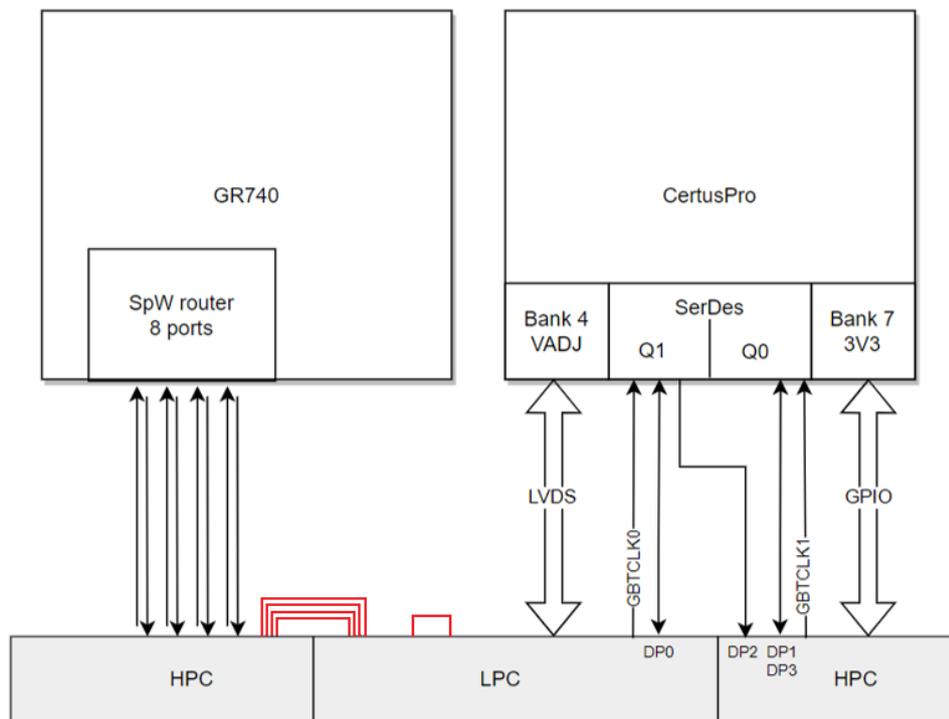

Figure 4-29 FMC+ connector scheme
The *GR740-MINI* is equipped with an FMC+ connector (FPGA Mezzanine Card), that is connected to both the GR740 and CertusPro-NX, see Figure 4-29. The FMC+ connector is divided into two section, Low Pin Count (LPC) and High Pin Count (HPC) and is described for the two devices below:
**NOTE:** Some signals are connected to two different FMC connector pins, which is illustrated in Figure 4-29 in red, each line represents a differential pair. Due do this it is **IMPORTANT** to check the connection to the mezzanine card before connecting with the *GR740-MINI* board, see Appendix C and Table 4-8.